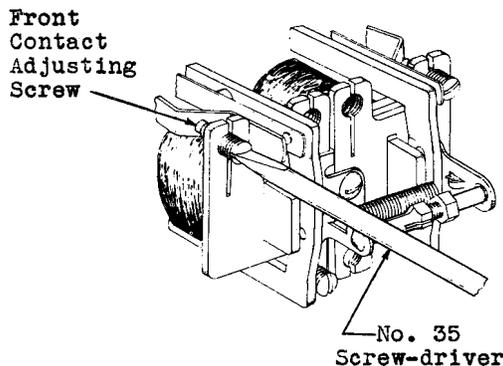

Fig. 8 - Method of Adjusting
- M-1 Front Contacts If the contact separation and follow requirements are not met, adjust the front contact adjusting screw (or screws) with the No. 35 screw-driver. Turning the screws in a clockwise direction decreases the contact separation and increases the follow and turning the screw in a counter-clockwise direction increases the contact separation and decreases the follow. Adjust the screw until the separation is at or near the minimum. This will insure a contact follow that is well above the minimum. See Fig. 8.